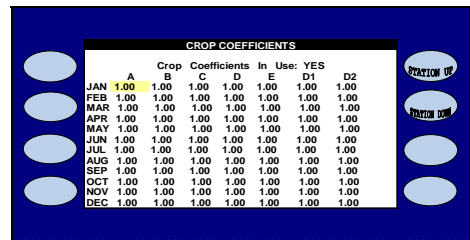

Figure 5.25
- Crop Coefficients In Use:** The default setting is set to NO. By changing it to YES the screen will show the Month and Program Columns (Figure 5.25).